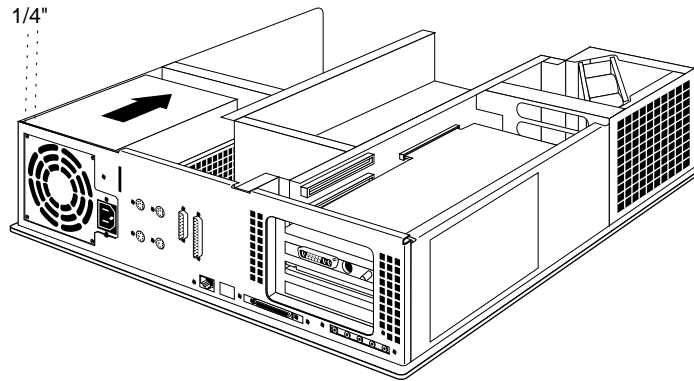

Figure 2-5 Moving the Power Supply Toward the Front of the Chassis
- Move the power supply toward the front of the workstation about 1/4", as shown in Figure 2-5, by pushing on the flat surfaces around the fan.